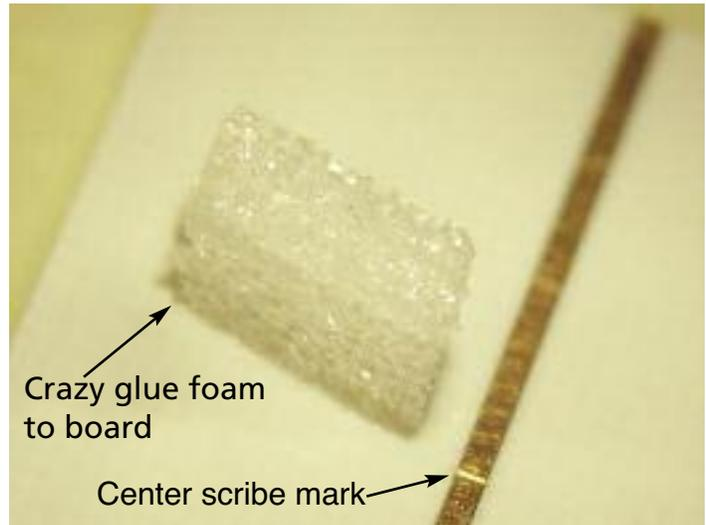

Figure 9: Securing the foam to the board
- Secure the foam block in place with a small amount of low density cyanoacrylate ester (Crazy Glue) as shown in **Figure 9**. The angular position with respect to the printed line should insure that the central axis of the coil is perpendicular to the line as viewed from the top of the board.